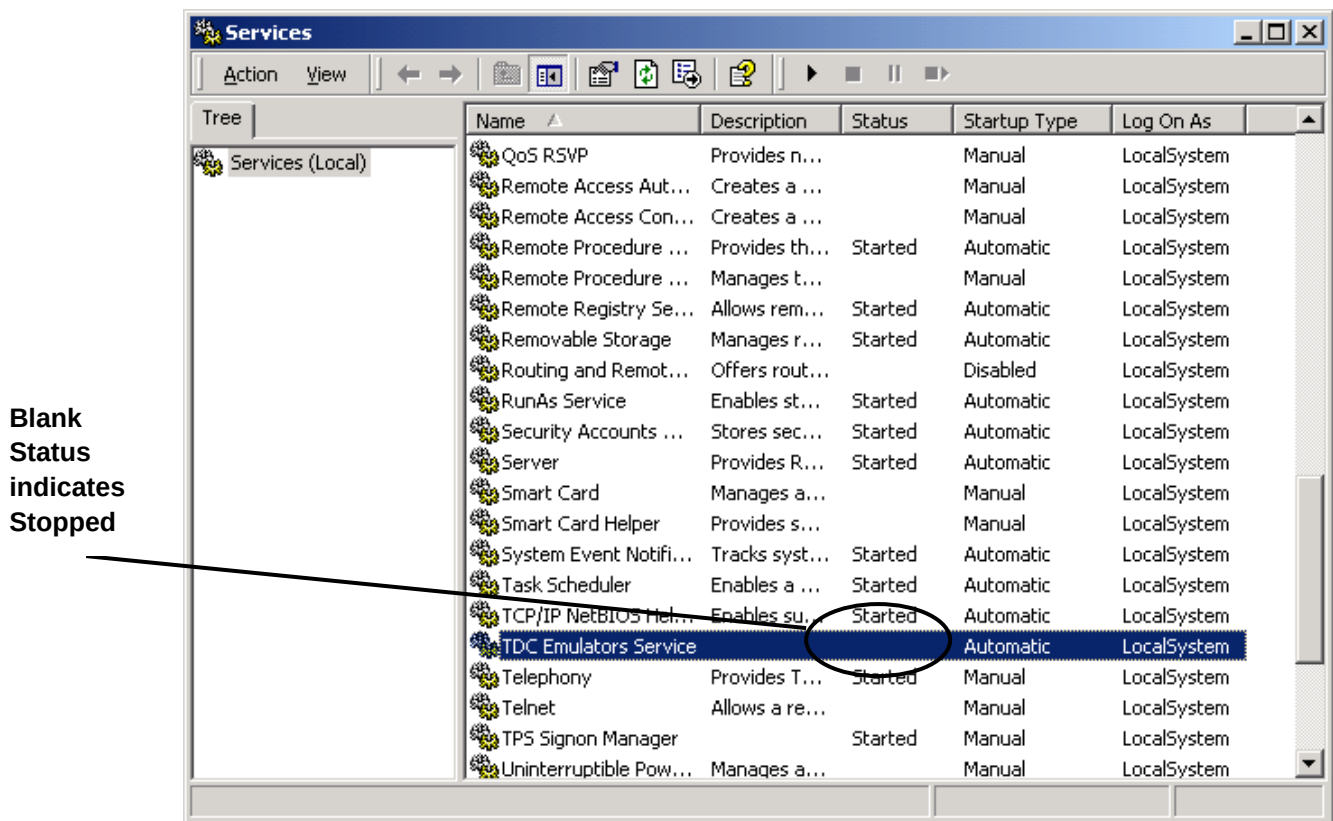

Figure E.1-1 TDC Emulators Service Stopped
E.1.3	Select Services and in the Services window, scroll down until the TDC Emulators Service appears. See Figure E.1-1 below.